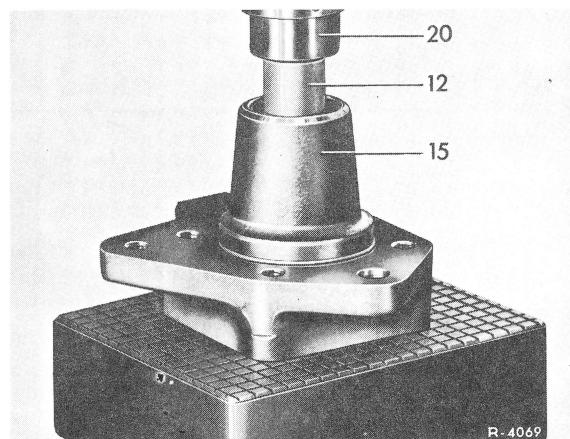

Fig. 2
2 Press bearing bushing (12) into housing cover (15) with installation tool (20) (Fig. 2).